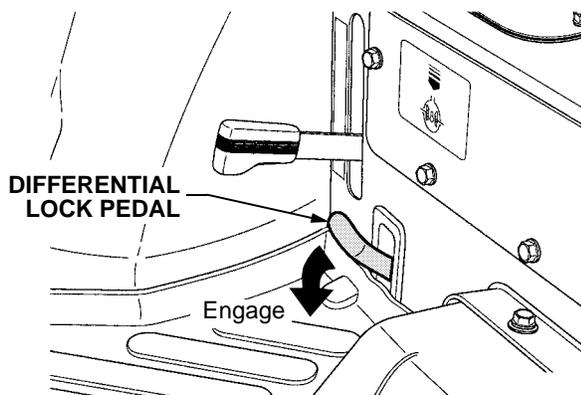

Figure 30
- Using your heel, fully depress and hold the differential lock pedal to engage the transmission differential lock. Release the pedal to disengage the differential lock. See Figure 30.